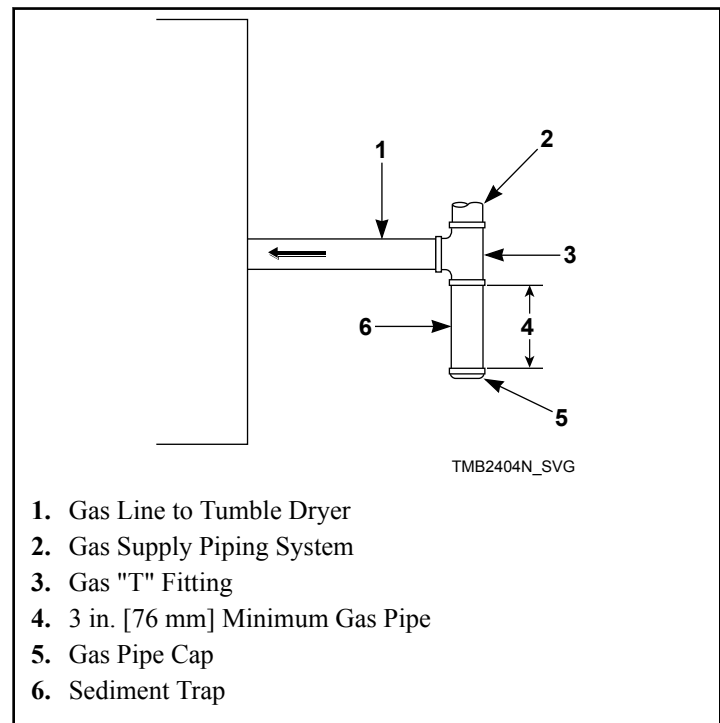

Figure 52
The following must be furnished and installed by the customer for the gas service line to each tumble dryer. Refer to *Figure 52*.
- Supply pressure taps (1/8 NPT minimum) (refer to *Figure 52*)